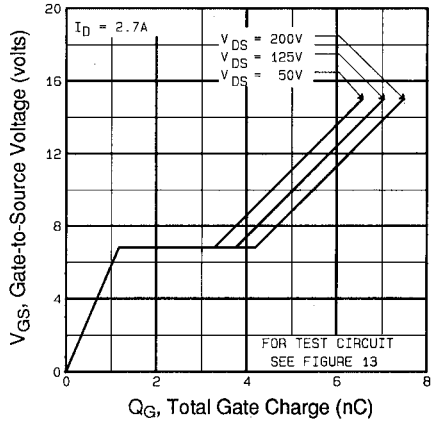

Fig 6. Typical Gate Charge Vs. Gate-to-Source Voltage
| Q_{gd} | Gate-to-Drain ("Miller") Charge | — | — | 4.5 | | $V_{GS}=10\text{V}$ See Fig. 6 and 13 ④ |